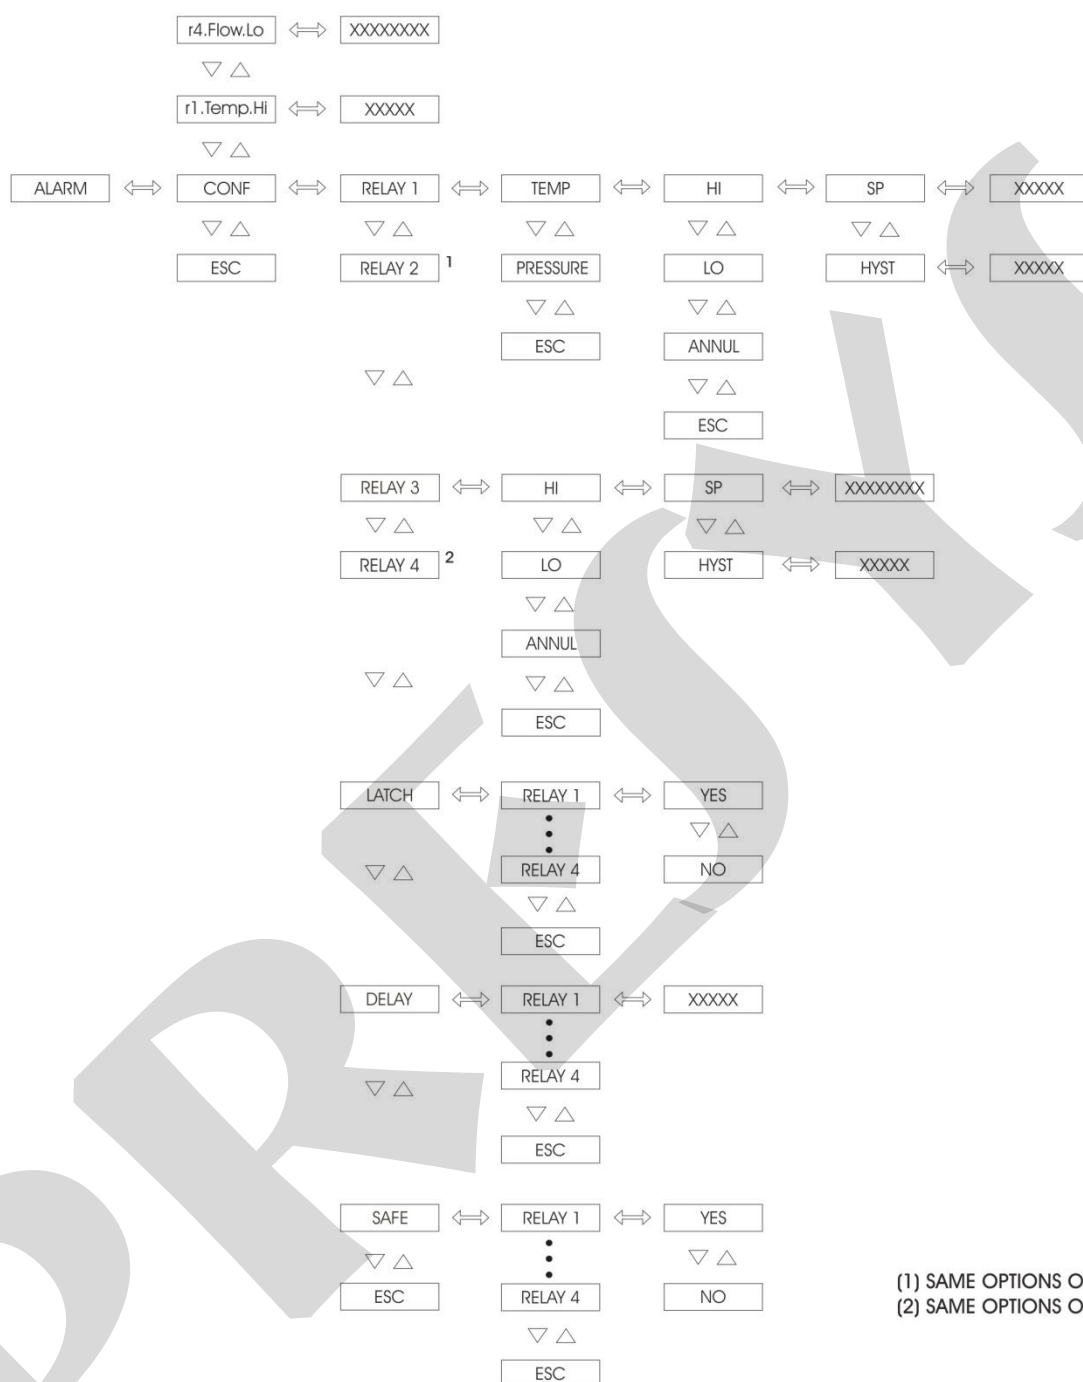

Fig. 17 - ALARM level options
The Flow Calculator has up to four alarm devices: outputs 1, 2, 3, and 4, which are respectively referred to as relay 1, relay 2, relay 3, and relay 4 (see figure 17). Relays 1 and 2 accept four types of alarms: low and high temperature indication and low and high pressure indication. Relays 3 and 4 accept two types of alarms: low and high compensated flow. For the configuration of all possible alarms, there are 12 alarm setpoint (SP) values with their respective hysteresis (HYST).
The table below refers to the ranges of the parameters shown in figure 17.